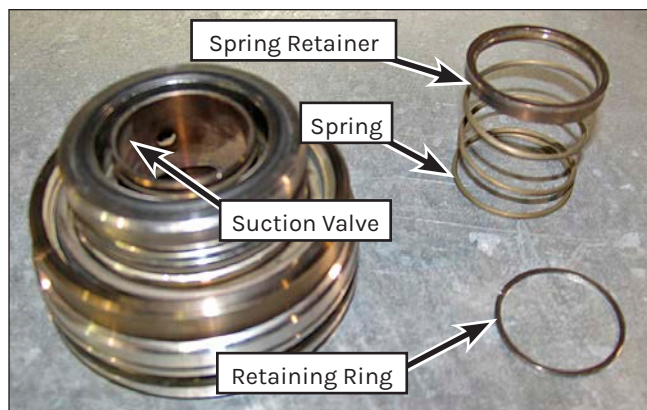

Figure 112: Retaining Ring and Spring Removal.
4. Remove the valve spring retainer and valve spring (Figure 112).